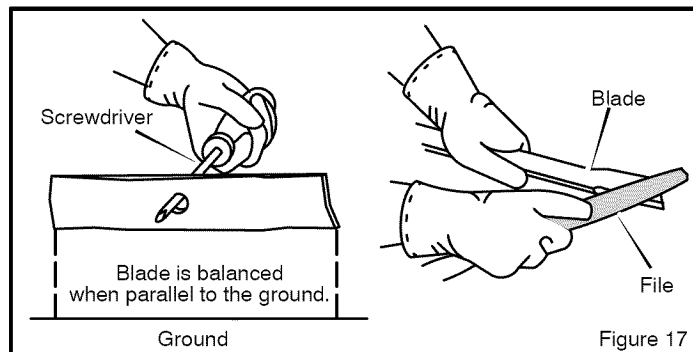

Figure 17
4. Sharpen the **blade** with a **file** (Figure 17). Make sure you keep the original bevel angle.
5. Make sure the **blade** is balanced. Use a **screwdriver** and hold the **blade** parallel to the **ground** (Figure 17). A **blade** that is balanced will stay parallel to the **ground**. If the **blade** is not balanced, the heavy end will rotate toward the **ground**. Sharpen the heavy end until the **blade** is balanced.